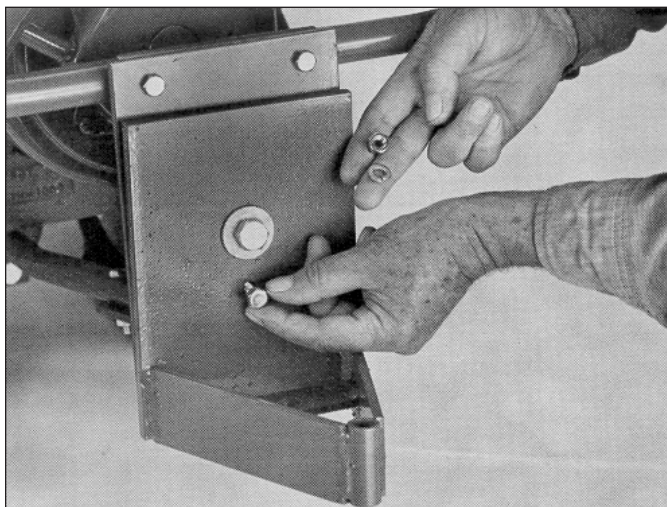

Figure 6: ATTACHING THE SWIVEL BRACKET (A-FRAME)
3. Insert a 1-1/4" screw (13, Figure 1) through the lower, smaller hole in the swivel bracket. Add a lock washer (7, Figure 1) and hex nut (6, Figure 1) and tighten securely. See Figure 6.